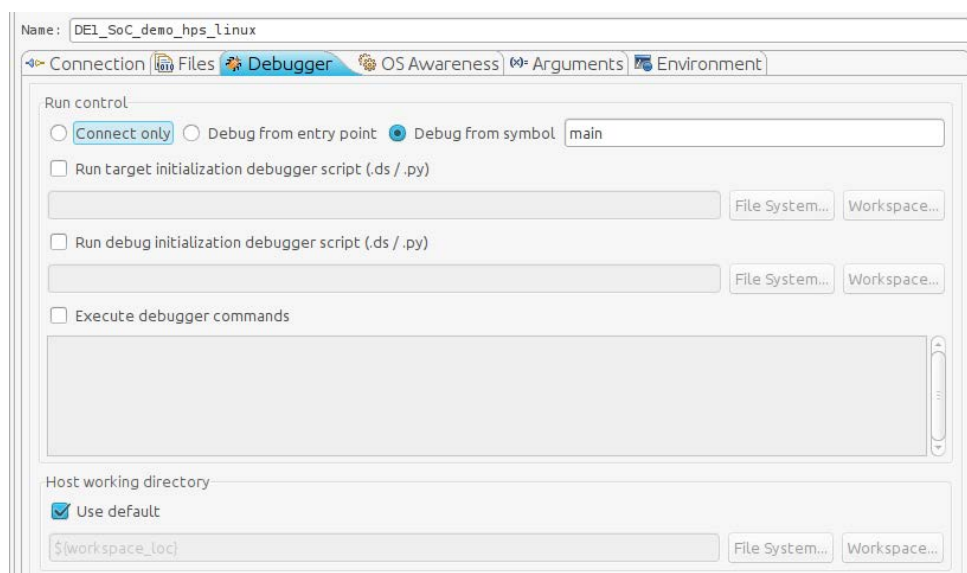

Figure 8-55. Debug Configuration "Debugger" Tab
23. Under the “Debugger” tab, make sure that “Debug from symbol” is selected and that “main” is the name of the symbol, as shown in Figure 8-55.